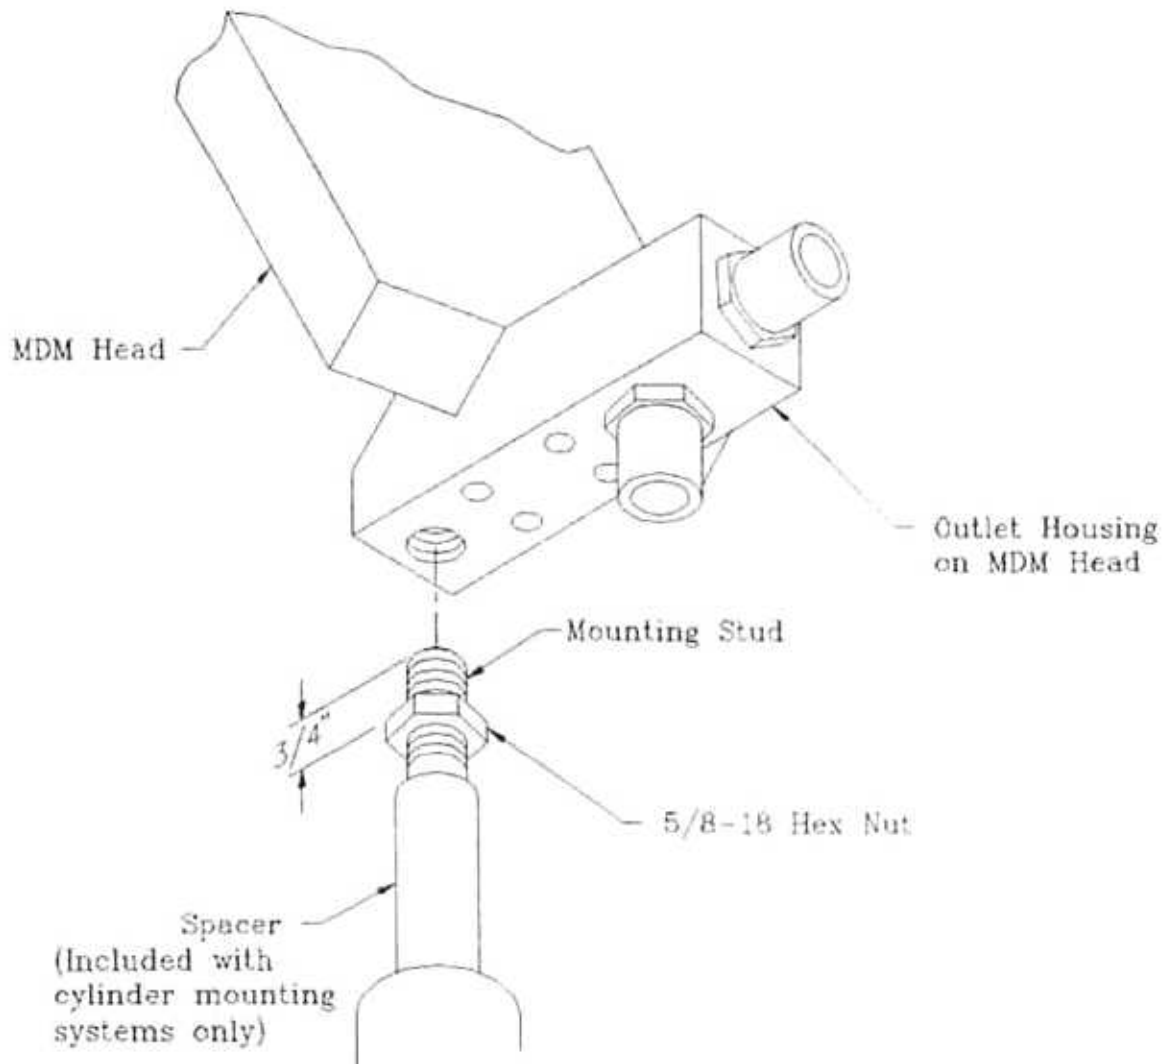
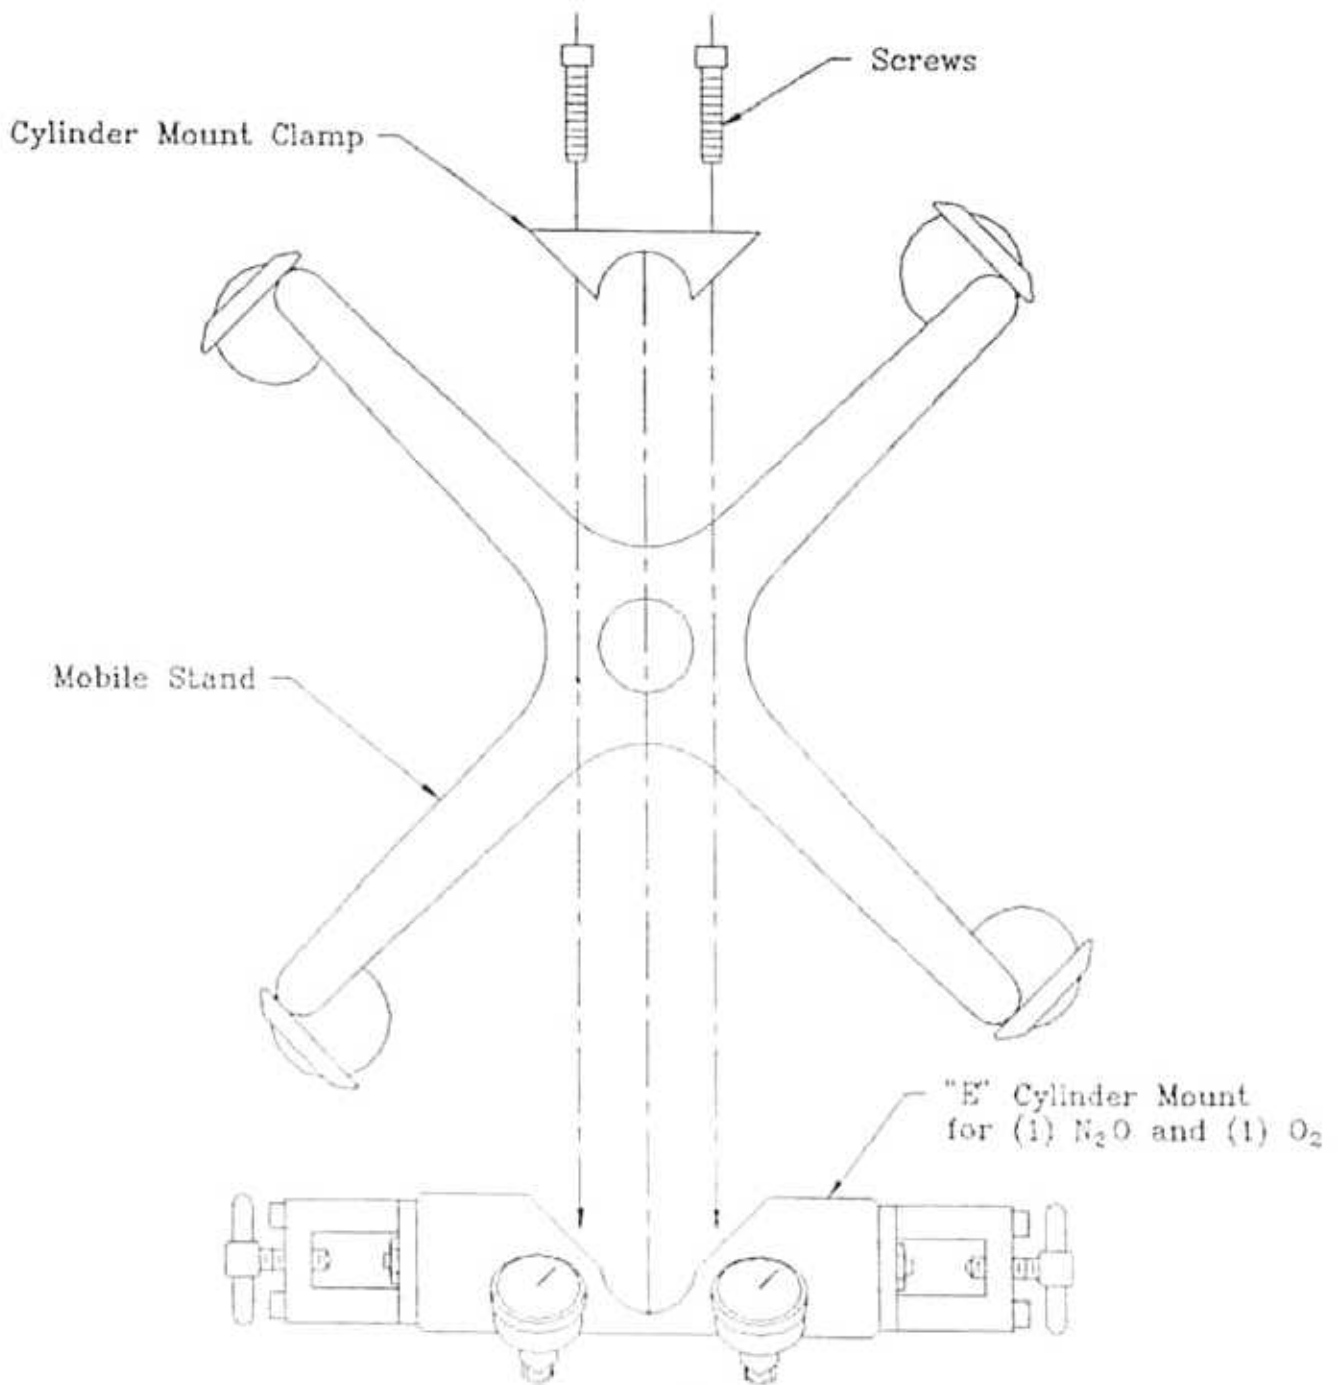

Figure 11
Figure 13
- A. Thread hex nut onto mounting stud until at least  $\frac{3}{4}$ " of thread is exposed above nut on stud. (See fig 11).
- B. Thread stud into  $\frac{5}{8}$  - 18 tapped hole located on bottom of the outlet housing of the analgesia head. Thread in until nut is reached. (See fig 11).
- B. Assemble head to stud as outlined in Figure 11 and set this assembly aside.
- C. Screws and cylinder mount are included in the yoke block assembly. The assembly procedure for either a 2 cylinder or 4 cylinder mount is the same. Refer to Figure 13 for 2 cylinder mount and figure 14 for 4 cylinder mount. Looking at the mobile stand from the top, orient the legs as shown in Figure 13 or 14.
- E. Looking from the top, locate the oxygen side of the mount as indicated in Figure 13 and Figure 14.
- I. Refer to Fig. 11 and mount head/stud unit. Refer to Figures 1 and 2 and Figures 13 and 14 and rotate head/stud assembly such that the oxygen flow tube of the head is on the oxygen side of the cylinder mount assembly.